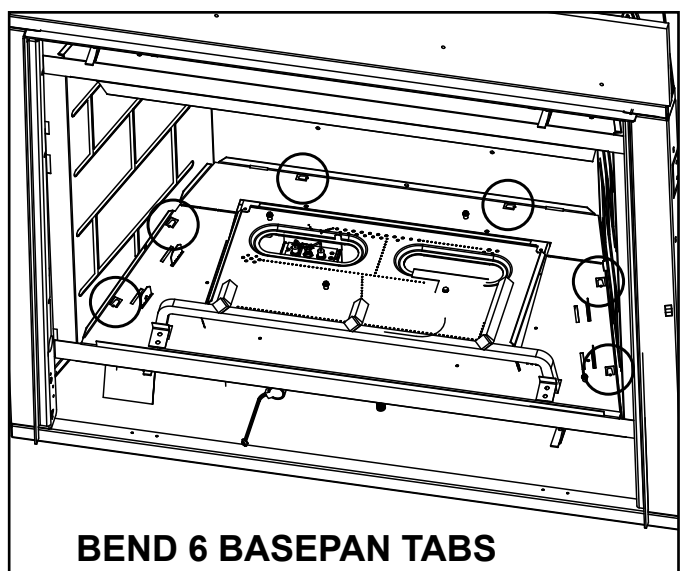

Figure 2. Basepan Tab Locations
4. Locate the six tabs on the basepan and bend upward. They are circled in Figure 2. There are two tabs on each side and two in the back.